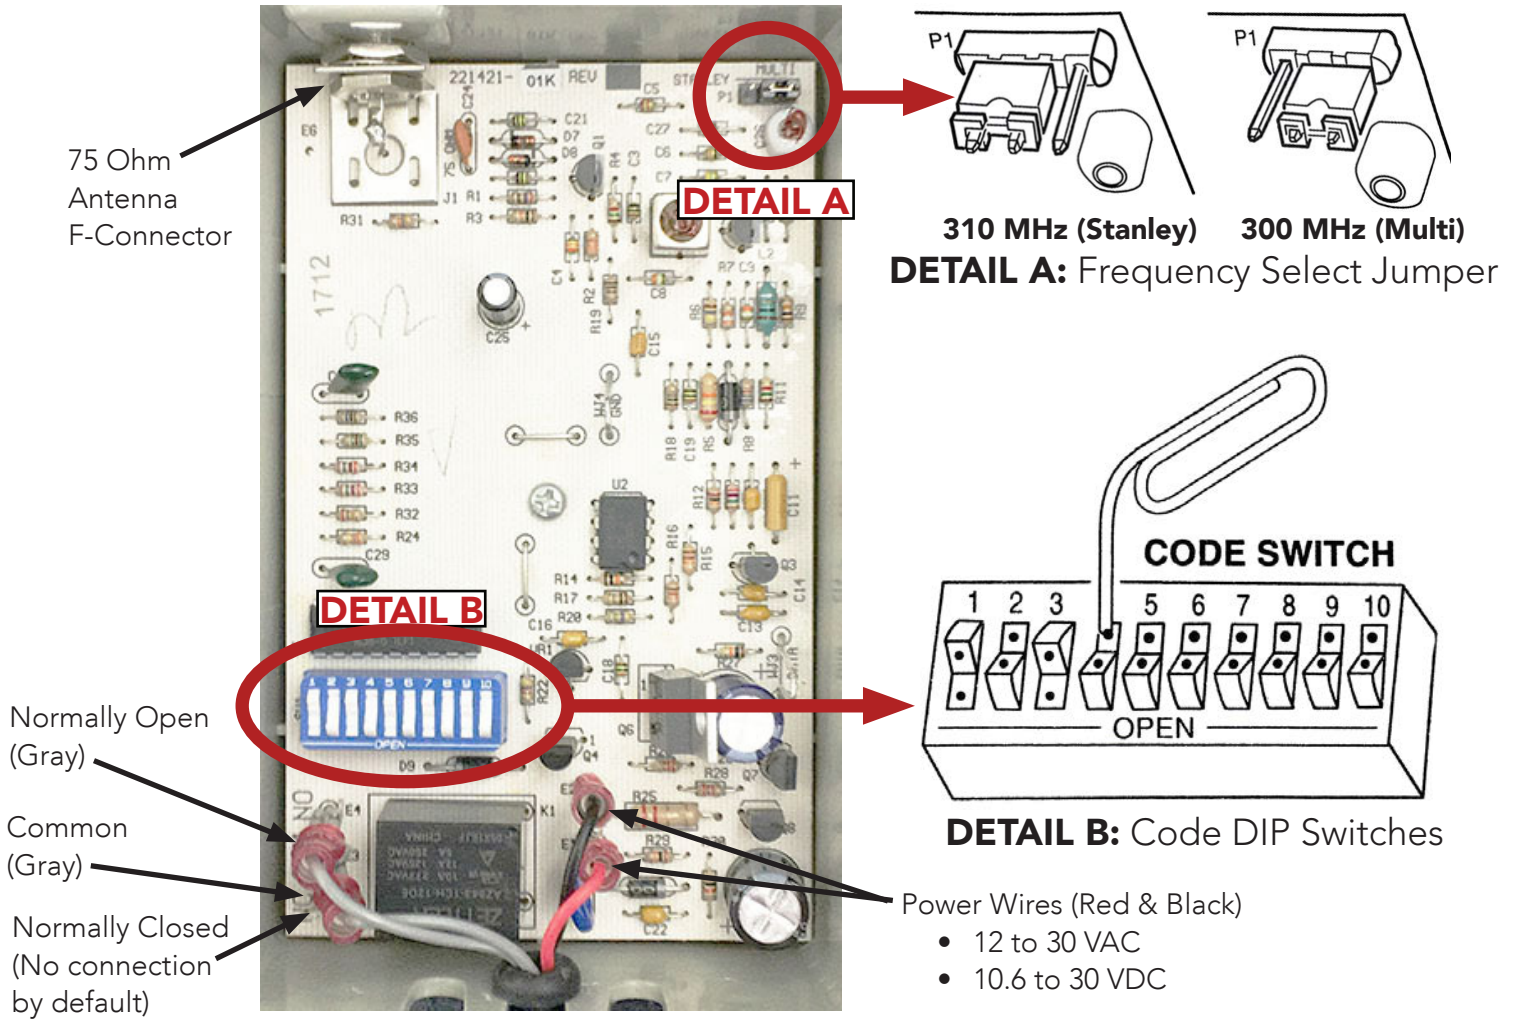

FIGURE 4: Receiver PCB (Cover Removed)
2. To select frequency refer to Figure 4, Detail A and place jumper as shown to select either 310 MHz (Stanley) or 300 MHz (Multi) position. If no jumper is present, the default frequency is 310 MHz.
The code is determined by positions of switches on DIP module (Figure 4, Detail B). Select ON (closed) or OFF (open) positions using a small pointed object, such as a small screwdriver or paper clip.